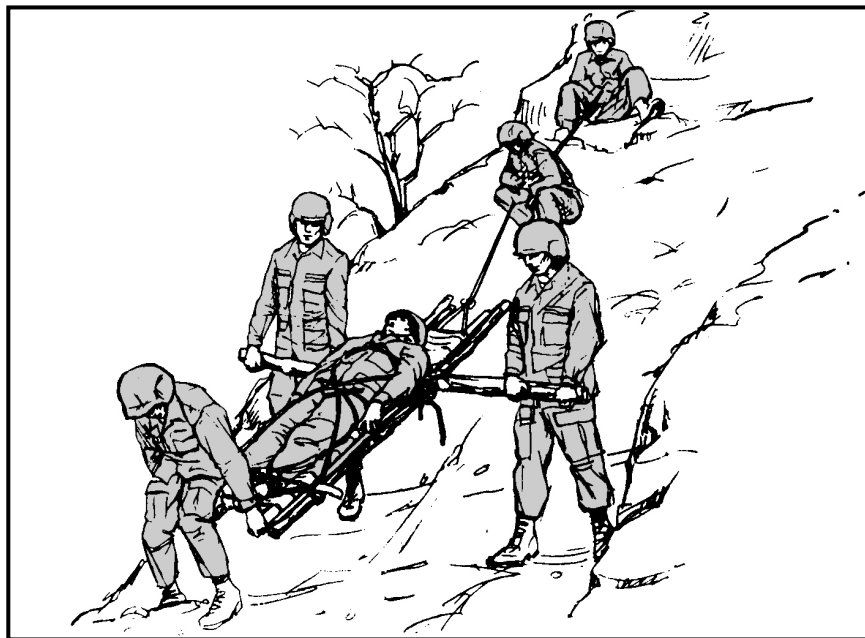

Figure 11-4. Low-angle evacuation—descending.
(6) Attendants guide the litter around obstacles while the crew continues to raise the system.
(7) As the litter nears the cliff edge, the signaller assists the attendant in moving the litter over the edge and onto the loading platform, taking care not to jar the casualty.
c. **Descending Slopes.** When descending a moderately steep slope that can be down-climbed, the litter and victim are prepared as described earlier (Figure 11-4, page 11-12).
(1) One man serves as the belay man and another takes his position on the rope in front of the belay man, assisting him in lowering the litter. The litter bearers take their positions and move the litter down with the speed of descent controlled by the belay man.